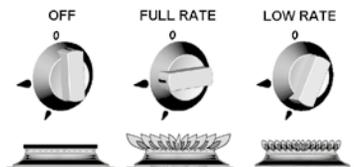

Fig. 1
3. To light: Push in the control knob and turn to full rate – see Fig.1. Hold a lighted match or taper to the burner and push the control knob in and hold. It is necessary to hold the knob depressed after the burner has ignited for approximately 10 - 15 seconds, to allow the thermocouple probe to reach temperature, before releasing the knob. Should the flame go out when the knob is released, the procedure should be repeated holding the knob depressed for slightly longer.
2. To light: Open door, push in the control knob and turn to full rate – see Fig 1 (page 156). Hold a lighted match or taper to the burner and push the control knob in and hold. The burner should ignite and the control knob should be held in for 10 -15 seconds before release.